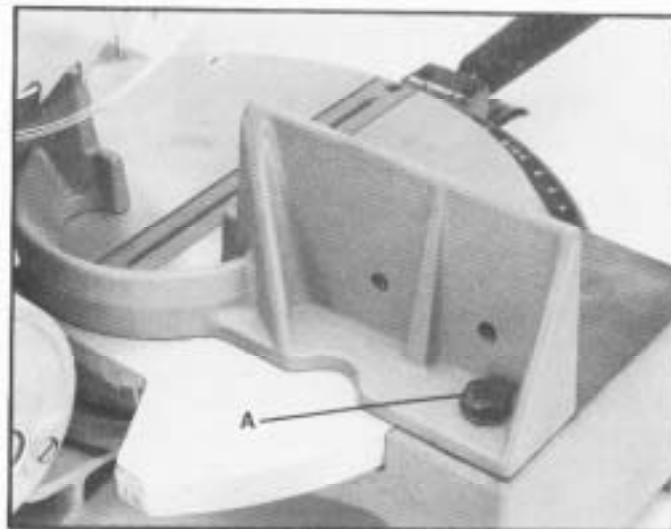

Fig. 19
4. If an adjustment is necessary, the fence can be adjusted by loosening the two screws, one of which is shown at (A) Fig. 19, that attach the fence to the base.